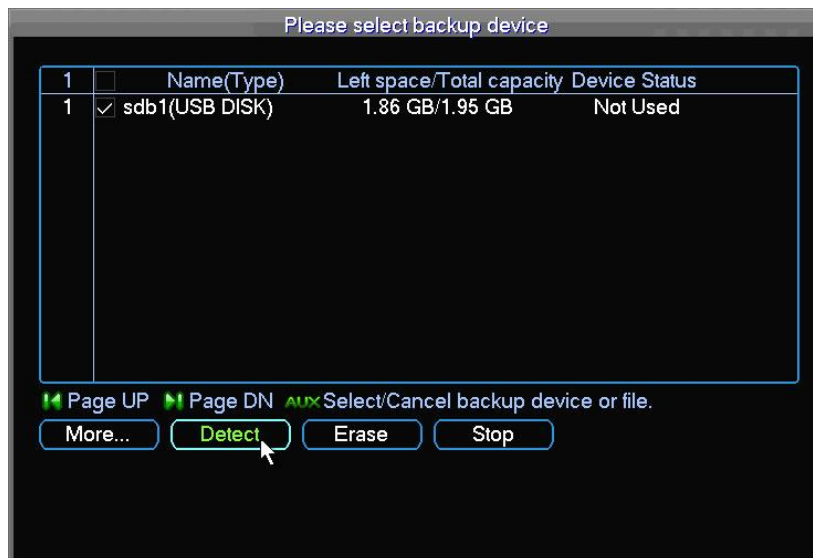

Figure 4-27
- PTZ activation: Here you can set PTZ movement when alarm occurs. Such as go to preset, tour& pattern when there is an alarm. Click “select” button, you can see an interface is shown as in Figure 4-27.
Click backup button, you can see an interface is shown as in _Figure 4-27. Here is for you to view devices information.